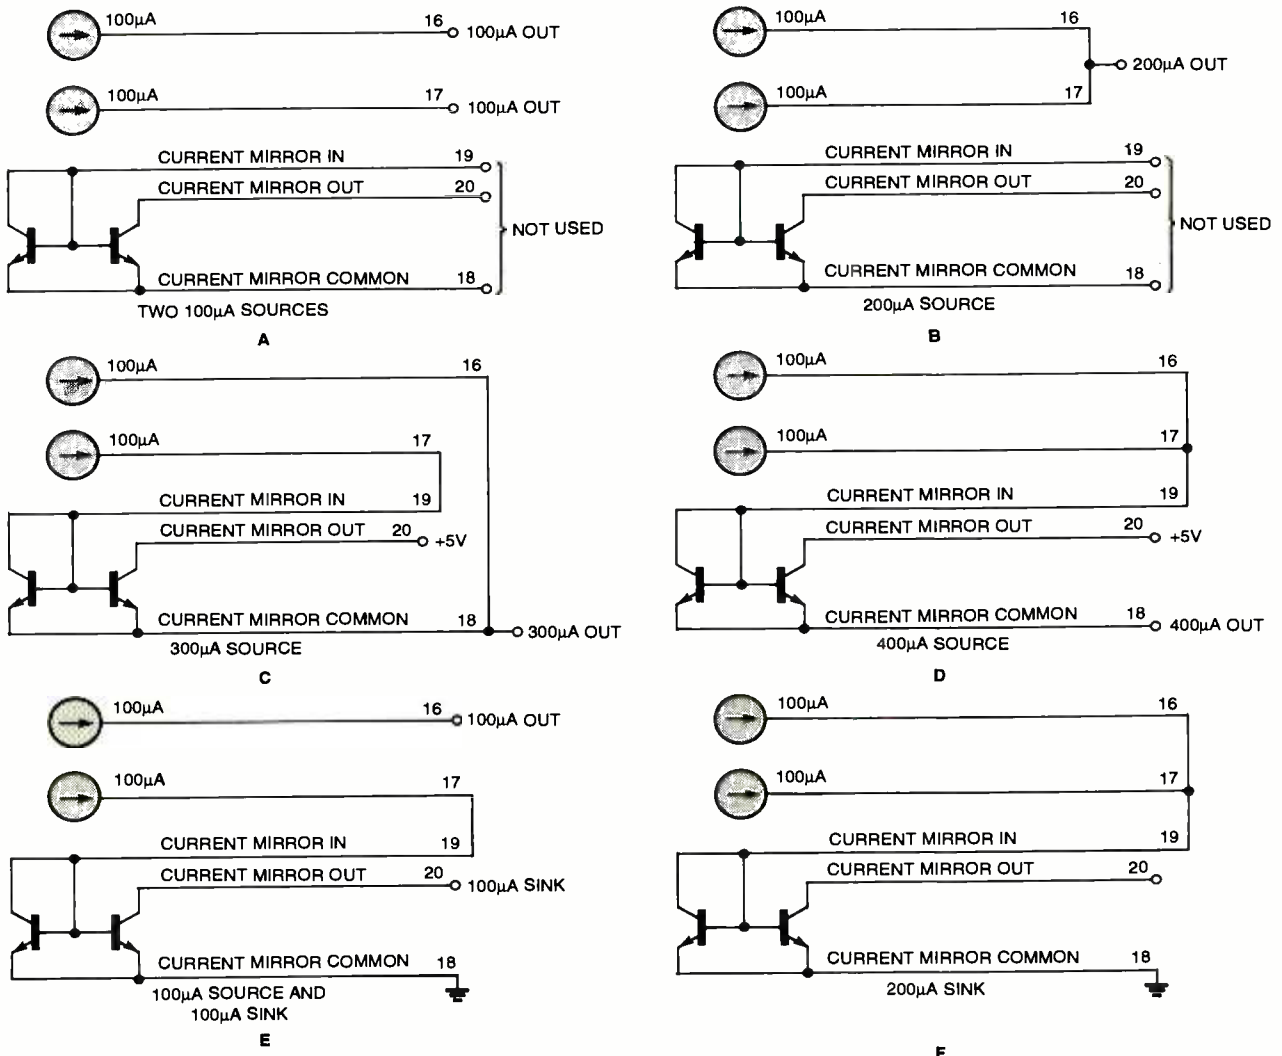

Fig. 5. The current sources and current mirror can be wired to obtain various configurations within the 100- to 400- μ A range.
Current Sources. The Universal Sensor Interface uses an REF200 precision current reference to form a pair of 100- μ A current sources and an uncommitted current mirror. Constant-current sources are highly useful for the excitation of resistive sensors. Figure 5 shows various ways in which the current source outputs and the current mirror can be connected to form two 100- μ A sources (A), one 200- μ A source (B), one 300- μ A source (C), one 400- μ A source (D), one 100- μ A source and one 100- μ A sink (E), or one 200- μ A sink (F). The accuracy of those sources/sinks is typically better than $\pm 1\%$, and the voltage compliance is 3.6 volts.